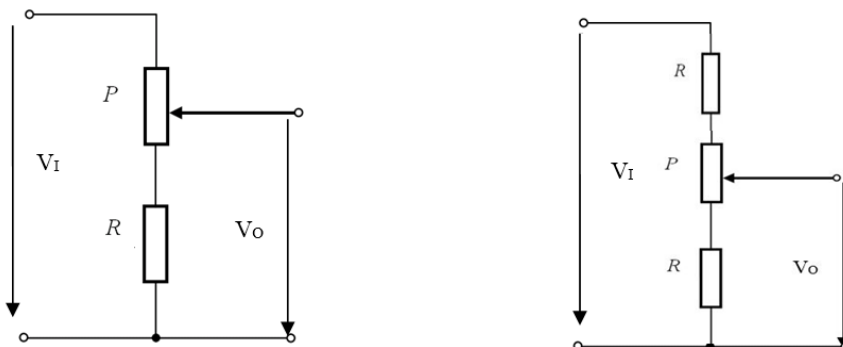

Fig. 5. Voltage divider circuits
- Build the circuits in Fig. 5. Apply a dc input voltage, $V_I = 10\text{ V}$.